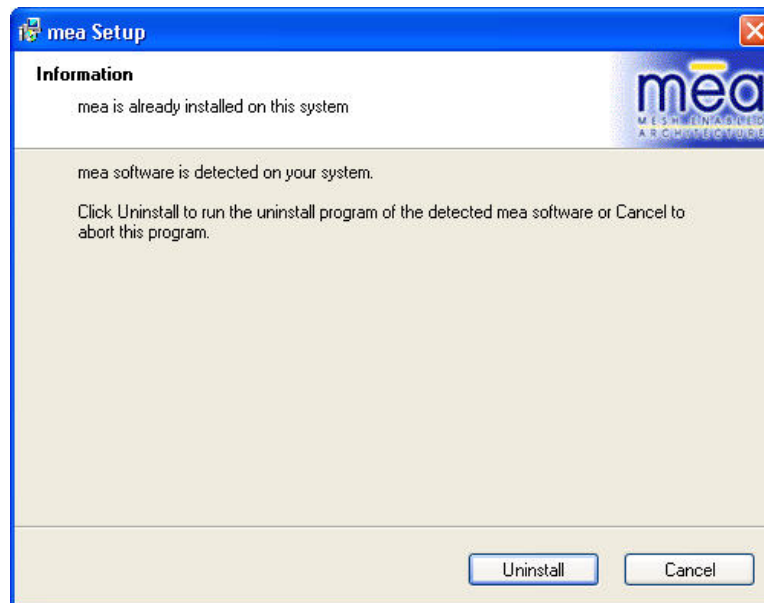

Figure 7 MEA Setup - Drivers Previously Installed Dialog
11. If MEA was previously installed on your computer, the *Information* dialog box will be displayed as shown in Figure 7. Click on the **Uninstall** button to uninstall the existing